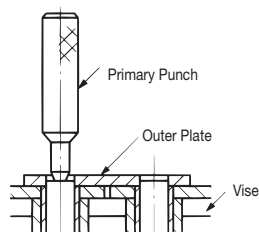

Figure 14: Tapping Pin with Primary Punch
- 1) Using a primary punch suitable for the chain size (refer to the Tsubaki Drive Chain Accessories section in a separate catalog), place the punch on the head of the pin that was ground down and strike with a hammer. Be sure to strike the pins on the outer link alternately to remove them evenly and at the same time. Strike the pins until they are just about to release from the outer plate (Figure 14).